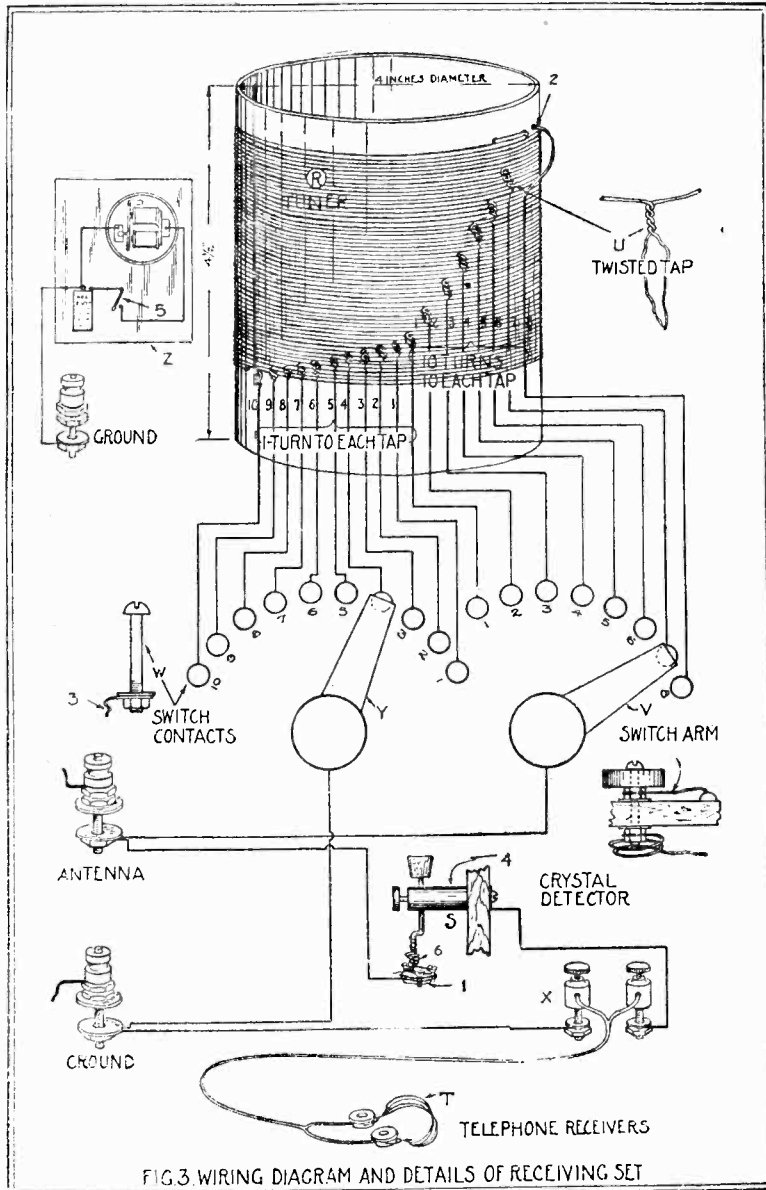

FIG. 3
(a) Tuning Coil (R, Fig. 3). This is a length of cardboard tubing with copper wire wound around it. The cardboard tubing may be an oatmeal box. Its construction is described in detail below. A cylinder of wood or other non-metallic substance may also be used.
(b) Crystal Detector (S, Fig. 3). The crystal detector may be of very simple construction. A number of different kinds of crystals are suitable for use as detectors; these are discussed in detail in the book "The Principles Underlying Radio Communication." A galena crystal which will be satisfactory can usually be conveniently secured. Silicon is usually not as sensitive as galena, but is sometimes more easily obtained, and sensitive spots are often more easily located on silicon. It is important that a selected tested crystal be used.
The crystal may be held in place on the wood base by three brass wood screws as shown at 1, Fig. 3. A bare copper wire is wrapped tightly around the three brass screws for connection.
(c) Phone (T, Fig. 3). It is desirable to use a pair of telephone receivers connected by a head band, usually called a double telephone headset. The telephone receivers may be any of the standard commercial makes having a resistance of between 2000 and 3000 ohms. The double telephone receivers may cost more than all the other
(a) Tuning Coil (R, Fig. 3). The cardboard tubing is 4 inches in diameter by $4\frac{1}{2}$ inches long. One end of the tube should have the cardboard cover glued securely to it. About 2 ounces of No. 24 (or No. 26) double cotton-covered copper wire is used for winding the coil. Punch three holes in the tube $\frac{1}{2}$ inch from one end as shown at 2 in Fig. 3. Weave the wire through these holes in such a way that the end of the wire will be firmly anchored, leaving about 12 inches of the wire free for connecting. Start with the remainder of the wire to wind the turns in a single layer about the tube, tightly and closely together. After 10 complete turns have been wound on the tube hold these turns tight and take off a tap. This tap is made by twisting a 6-inch loop of the wire together at such a place that it will be slightly staggered from the first connection. This method of taking off taps is shown clearly at U, Fig. 3. Proceed in this manner until 7 twisted taps have been taken off—one at every 10 turns. After these first 70 turns have been wound on the tube, take off a 6-inch twisted tap for every succeeding single turn until 10 additional turns have been wound on the tube. After winding the last turn of wire, anchor the end by weaving it through two holes punched in the tube as at the start, leaving about 12 inches of wire free for connecting. It is to be understood that each of the 18 taps is slightly staggered from the one just above, so that the taps will not be punched along one line on the cardboard tube (see Fig. 3). It might be advisable, after winding the tuning coil, to dip the tuner in hot paraffin. This will help to exclude moisture. It is important to have the paraffin heated until it just begins to smoke, as previously explained, so that when the tuner is removed it will have only a very thin coat of paraffin.
screws about $1\frac{1}{2}$ inches long with three nuts and two washers. The first nut binds the bolt to the panel, the second nut holds one of the short pieces of stiff wire, as the case may be. The switch arm with knob shown at V, Fig. 3, may be purchased in the assembled form it may be constructed from a $\frac{3}{8}$ -inch slice cut from a broom handle and a bolt of sufficient length equipped with four nuts and two washers, together with a strip of thin brass somewhat as shown. The end of the switch arm should be wide enough so that it will not drop between the contact points, but not so wide that it can not be set to touch only a single contact. The switch contacts (W, Fig. 3) may be of the regular type furnished for this purpose, or they may be 6/32 brass machine screws with one nut and one washer each; they may even be nails driven through the panel with the individual tap fastened under the head or soldered to the projection of the nail through the panel. The base is of wood approximately $\frac{3}{4}$ inch thick, $5\frac{1}{2}$ inches wide, and $10\frac{1}{2}$ inches long.
The telephone binding posts should preferably be of the set-screw type as shown at X, Fig. 3.
After the several parts mentioned have been constructed and (with the exception of the tuning coil) mounted on the wood base, the wires may be connected to the switch arms and binding posts, and the taps may then be connected to the switch contacts. A wire is connected to the back of the left-hand switch-arm bolt (Y, Fig. 3), twisted into a spiral of one or two turns like a clock spring, and then led to the back of the binding post marked "ground." Connection is made to the binding post by removing the insulation from the wire and clamping between the nut and washer. The same wire is now passed through a small hole and run underneath the base to the left-hand binding post marked "phone." A wire is then run from underneath the right-hand binding post marked "phone" to the binding post 4, Fig. 3, which is part of the crystal detector. The copper wire, which was wrapped tightly about the three brass wood screws that hold the crystal in place, is led underneath the base, up through a small hole, and is then connected to the back of the binding post marked "antenna." Another wire is connected to the back of the right-hand switch-arm bolt (V), twisted into a spiral of one or two turns like a clock